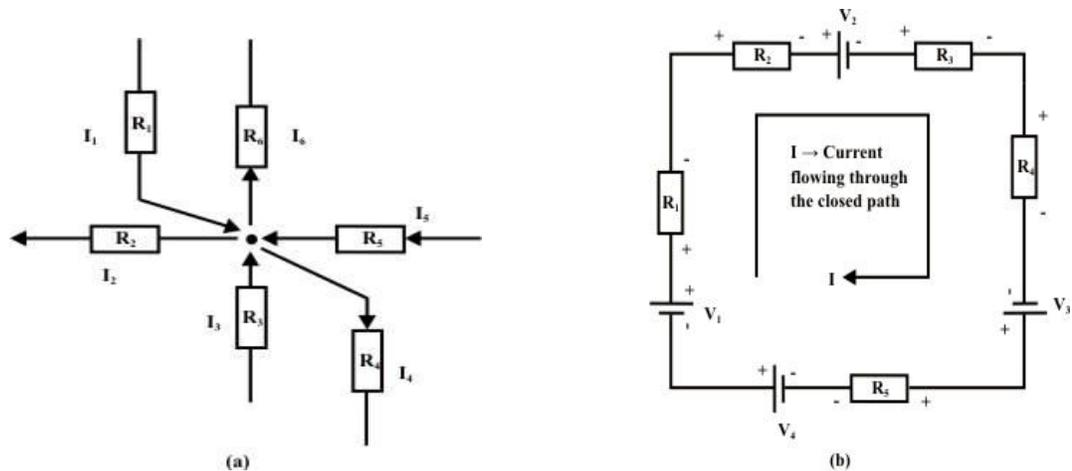

Fig. 5: Illustration of Kirchhoff's laws
- Branch- A branch is a conducting path between two nodes in a circuit containing the electric elements. These elements could be sources, resistances, or other elements. Fig 5(a) shows that the circuit has six branches: three resistive branches (a-c, b-c, and b-g) and three branches containing voltage and current sources (a-, a-, and c-g).
- Loop- A loop is any closed path in an electric circuit i.e., a closed path or loop in a circuit is a contiguous sequence of branches which starting and end points for tracing the path are, in effect, the same node and touches no other node more than once. Fig. 5(b) shows three loops or closed paths namely, a-b-g-a; b-c-g-b; and a-c- b-a. Further, it may be noted that the outside closed paths a-c-g-a and a-b-c-g-a are also form two loops.
- Mesh- a mesh is a special case of loop that does not have any other loops within it or in its interior. Fig. 5(b) indicates that the first three loops (a-b-g-a; b-c-g-b; and a-c-b-a) just identified are also 'meshes' but other two loops (a-c-g-a and a-b-c-g) are not. With the introduction of the Kirchhoff's laws, a various types of electric circuits can be analyzed.
KCL states that at any node (junction) in a circuit the algebraic sum of currents entering and leaving a node at any instant of time must be equal to zero. Here currents entering (+ve sign) and currents leaving (-ve sign) the node must be assigned opposite algebraic signs (see Fig 5 (a), $I_1 - I_2 + I_3 - I_4 + I_5 - I_6 = 0$).
KVL equation for the circuit shown in Fig 5(b) is expressed as (we walk in clockwise direction starting from the voltage source V_1 and return to the same point)